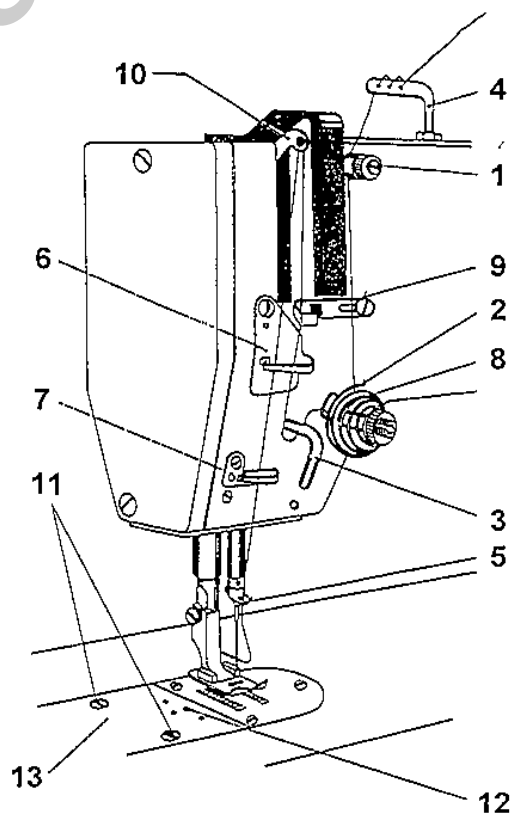

Fig. 5
9. To thread the upper thread (Fig. 5)